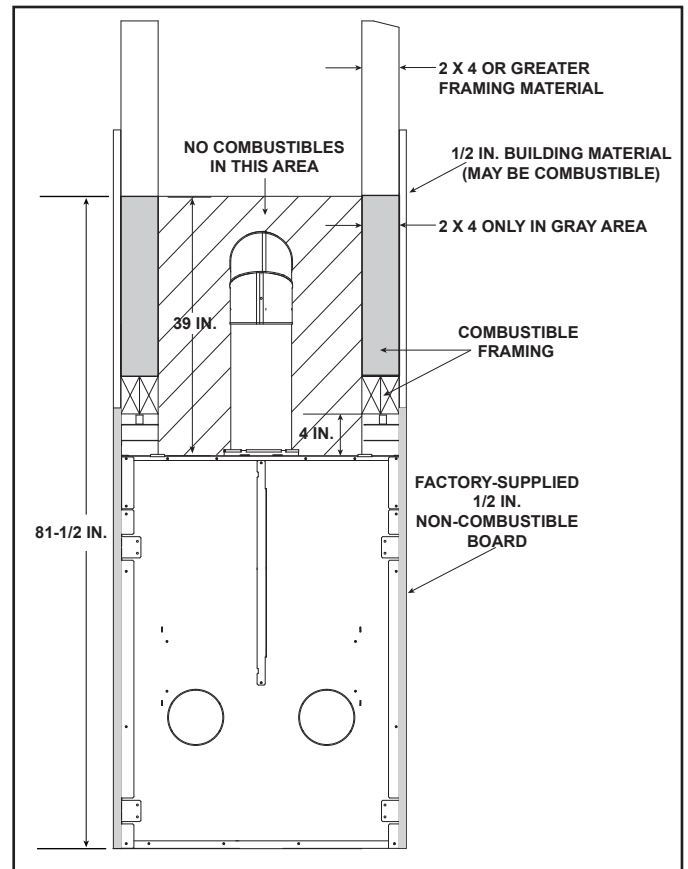

Figure 3.7 Non-Combustible Zone
**Note:** Framing above appliance can not exceed 3-1/2 inches in thickness. See Figure 3.7.